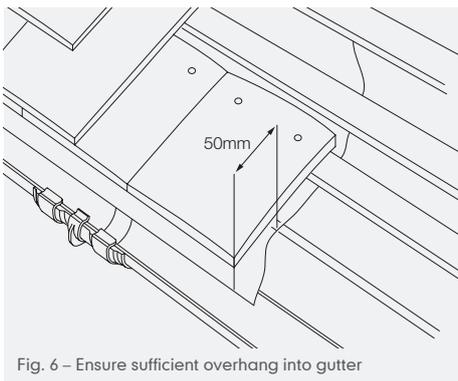

Fig. 6 – Ensure sufficient overhang into gutter
- 3 There should be an overhang of 50mm on the rake (Fig. 6).